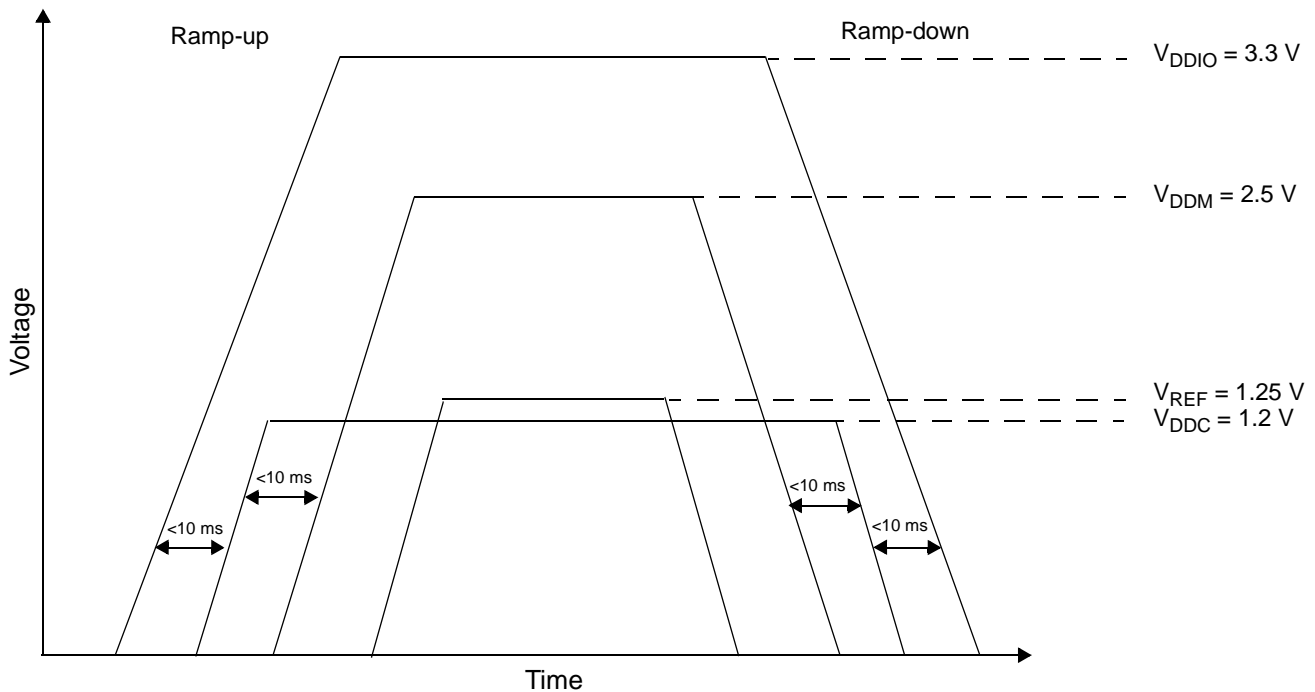

Figure 30. Voltage Sequencing Case 1
- Refer to **Figure 30** for relative timing for power sequencing case 1.